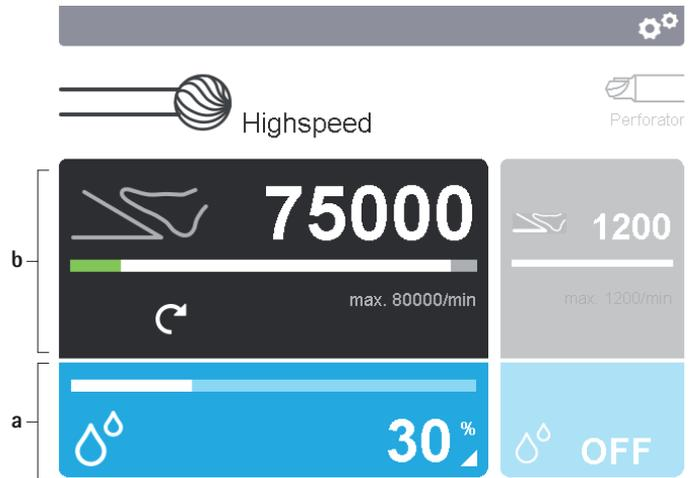

Fig. 5 Activating the control panel
- Changing the setting parameters of the applied part: Activate the applied part control panel **b** in the display 2, see Fig. 5.